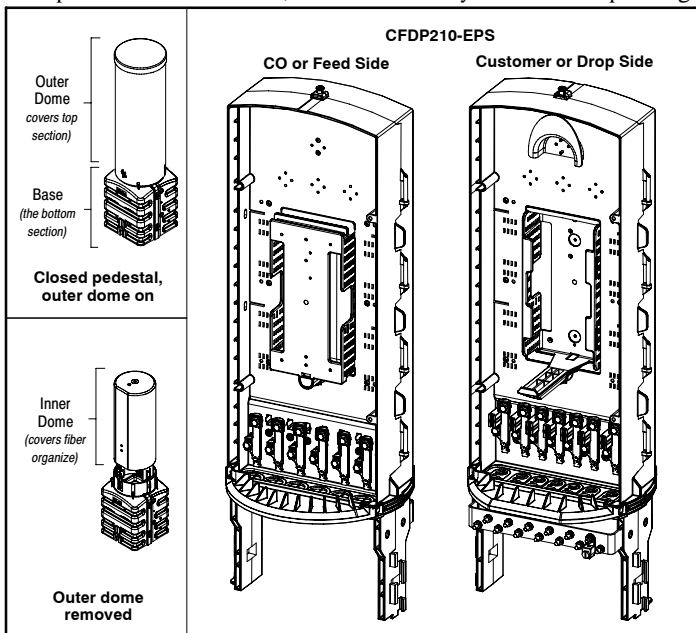

Figure 1. CFDP210-EPS Fiber Organizer
1.1 Document Purpose. This document provides instructions for the fiber cable technician to properly perform fiber cable preparations, routings, splicing, terminations and connections within the Charles Industries' Fiber Distribution Point (CFDP2) ELS and EPS Pedlock® pedestals with a 10" dome. This model, shown in Figure 1, offers an interior fiber organizer for use at a fiber distribution point. Call Charles Industries (see Part 3) to request more information or literature on this or other models.
10. □ **Attach fiber organizer.** (Skip this step if the fiber organizer is already installed.) First, position the feed cable so it will be at the CO or feed side of the fiber organizer (see Figure 1). Then install the fiber organizer to facilitate marking the cable for the proper cable sheath removal length. Align the fiber organizer legs with the leg guides in the collar of the base. Once aligned, press down on the fiber organizer until the tab locks are engaged (audible clicks indicate proper leg insertion).